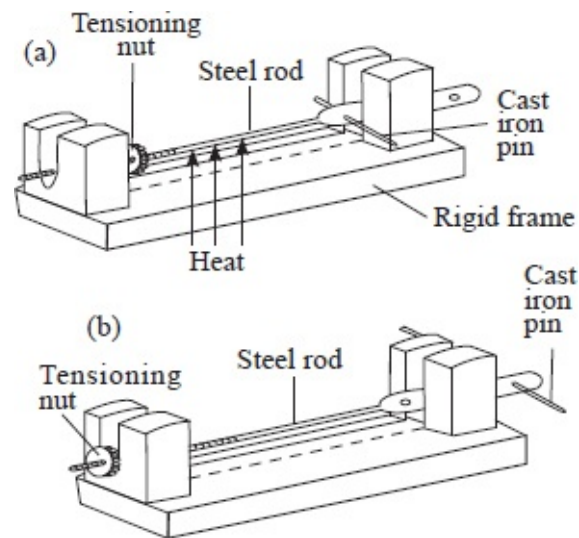

Fig. 6.4: Force due to expansion and contraction
- Fit the tensioning nut and cast iron pin on the inside position of a bar-breaking apparatus, as shown in figure 6.4 (a).
- Heat the steel rod strongly and note what happens to the cast iron pin. Allow the apparatus to cool and repeat the experiment with the other cast iron pin and the tensioning nut on the outside, as shown in figure 6.4 (b).